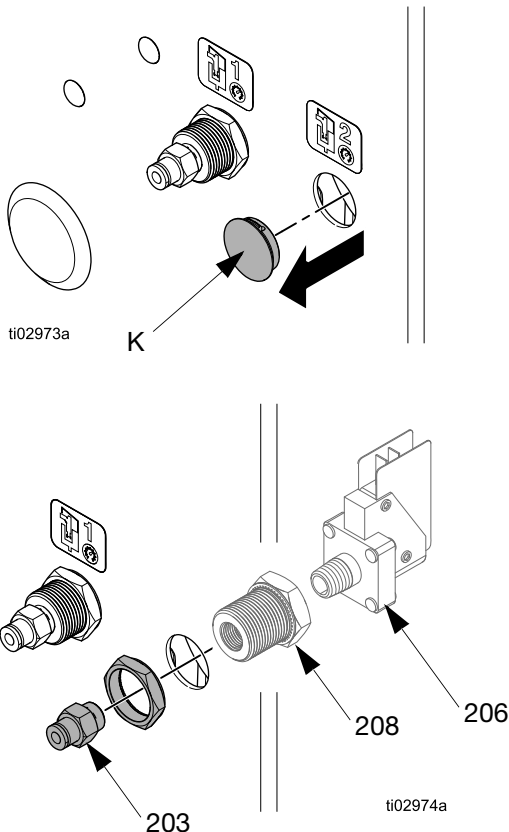

FIG. 27: Install Pressure Switch Inside Electrical Control Box
NOTE: Each gun flush box includes one pressure switch (PS). Install the pressure switch as shown in FIG. 27 for the ProMix V.
2. Knock out (K) on the side of the electrical control box.
3. Position pressure switch (206) as shown. Install bulkhead fitting (208) to secure the switch to the side of the panel. Install tubing adapter (203) in the bulkhead fitting.